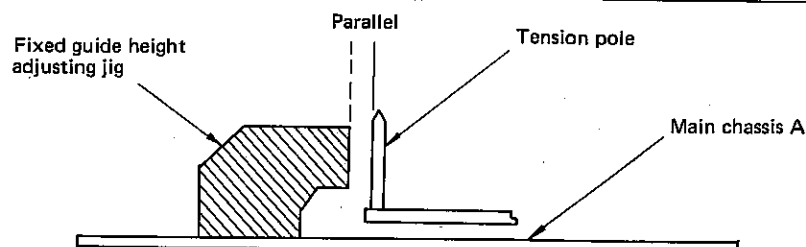

Figure 21.
2. Install the fixed guide height adjusting jig as shown in Figure 21.